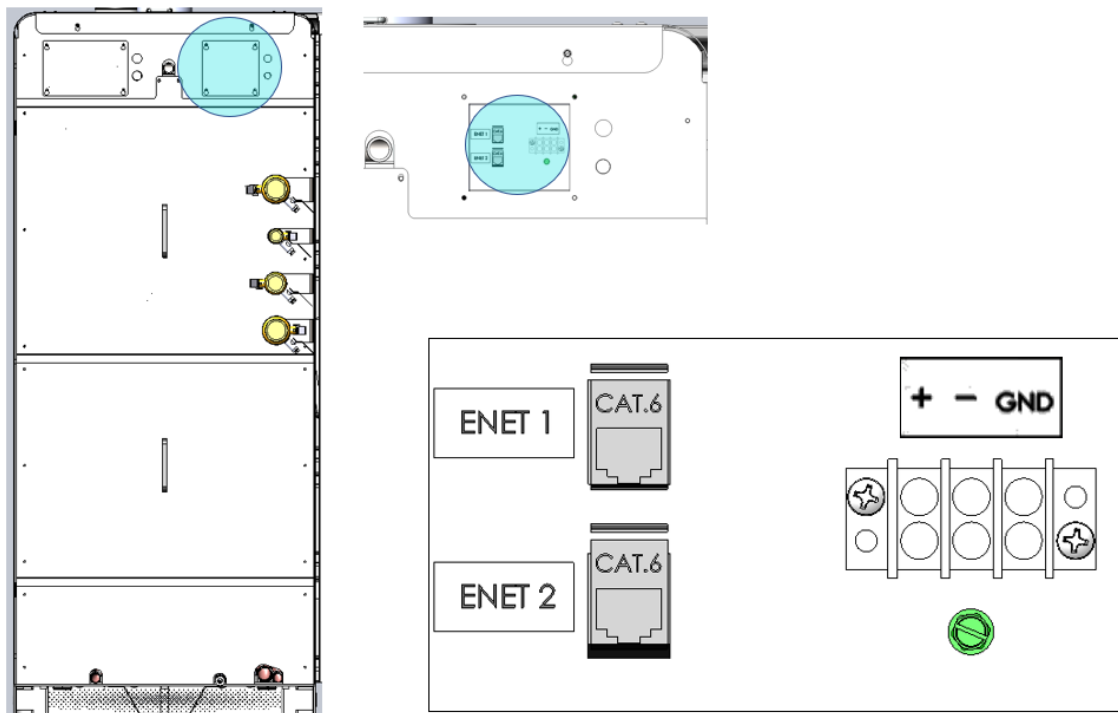

Figure 5-5 – Location of network and BAS connections via ethernet or RS485 at the rear of the unit.
1. Open the rear, low-voltage electrical panel on the right side of Element per Figure 5-5.
check the rear of the unit in the low voltage section of the electrical compartment for a proper network connection to ENET 1 per Figure 5-5 and Table 5-1. Element receives an IP address via DHCP rather than a static IP. MAC addresses are available if the building network requires MAC filtering.